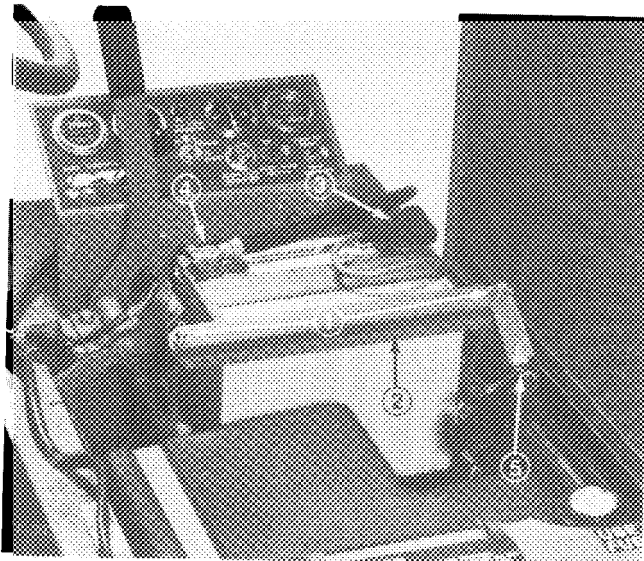
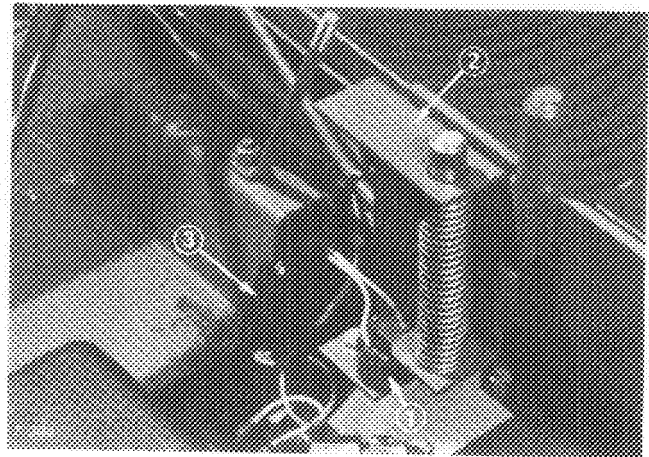

Figure 5
Figure 6
2. Remove two wing nuts and the hold down strap that secure battery and seat switch in place (Fig. 5). Lift battery out of Chassis. Keep wing nuts and hold down strap in a safe place for later use.
2. Mount seat support bracket to frame (Fig. 6).
3. Remove seat switch from shipping bracket (Fig. 5) and mount to seat support bracket using same fasteners (Fig. 6). Connect switch connector to main wire harness connector (Fig. 6).
3. Remove seat switch from shipping bracket (Fig. 5) and mount to seat support bracket using same fasteners (Fig. 6).
1. Install battery and secure with hold down strap and wing nuts (Fig. 5). Remove tape over ends of each cable.
2. Slide the red, positive battery cable (Fig. 5) onto positive battery post and tighten nut securely.
3. Slide the black, negative battery cable (Fig. 5) onto negative battery post and tighten nut securely.
4. Coat both battery connections with either Grafo 112X (skin-over) grease, Toro Part No. 505-47, petroleum jelly or light grease to prevent corrosion and slide rubber boot over positive terminal (Fig. 5).